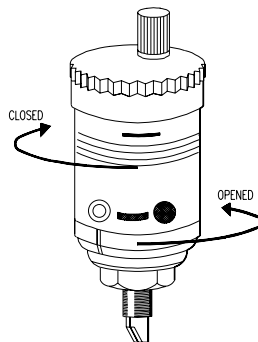

Figure 2 Shown in
1. Before filling the system, make sure the red vent cap is securely tight and that the valve is in the closed position (see figure 2) by turning vent body clockwise. Use hands only to avoid damaging the vent.
4. Start operation by turning the air vent body counter-clockwise to the open position (see figure 2).
1. Turn the vent body clockwise to the closed position, isolating the vent from the system (see figure 2).